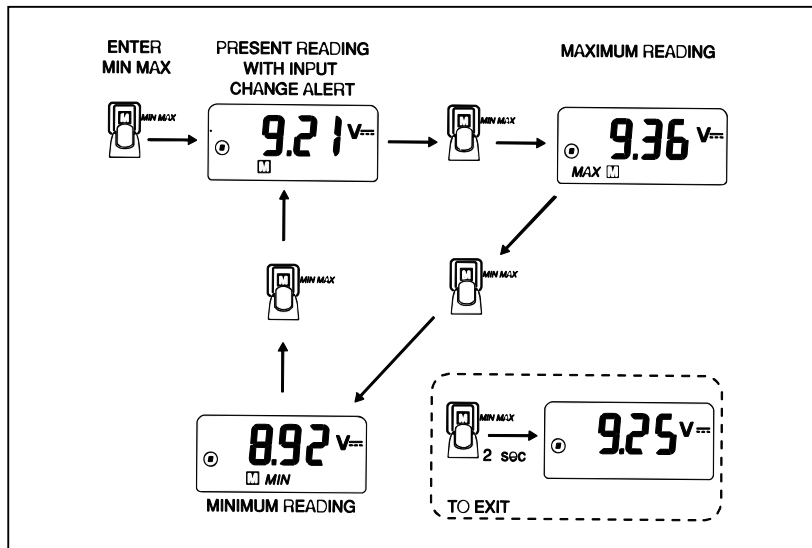

Figure 7. Displaying Minimum and Maximum Reading
4. Press  $[M]$  to cycle through maximum, minimum, and present readings (see Figure 7). To exit MIN MAX and erase the stored readings, press  $[M]$  for 2 seconds or change the measurement function.